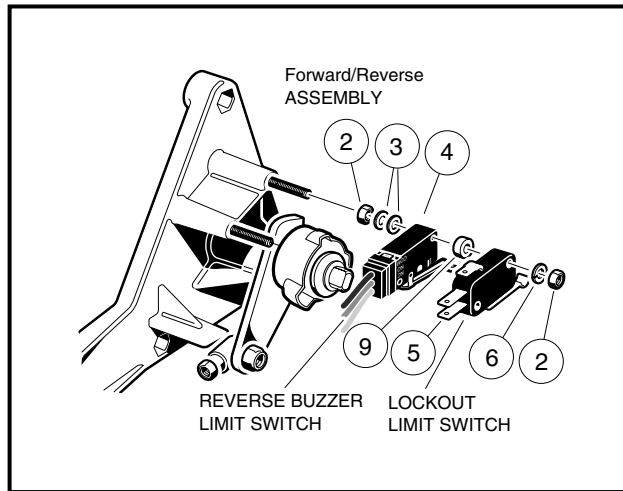

Figure 12-22 Lockout Cam and Reverse Buzzer Limit Switches
4. Disconnect the wires from the lockout cam limit switch (5) located on the back of the Forward/Reverse shifter assembly (**Figure 12-22, Page 12-21**).
5. Remove two nuts (2) and washers (6) from the lockout cam limit switch (5) and slide the lockout cam limit switch off of the screws.
1. Install the lockout cam limit switch (5) with two washers (6) and two nuts (2) (**Figure 12-22, Page 12-21**). Tighten to 5 in-lb (0.6 N·m). Place the Forward/Reverse handle in REVERSE to make sure that both switches actuate. **See following CAUTION.**
4. Disconnect the wires from the reverse buzzer limit switch (4) located on the back of the Forward/Reverse assembly (**Figure 12-22, Page 12-21**).
5. Remove the nuts (2) and washers (6) from the lockout cam limit switch (5) and slide the lockout cam limit switch off of the screws. Do not disconnect the wires.
6. Remove the spacers (9) from the reverse buzzer limit switch (4) and slide the reverse buzzer limit switch off the screws.
1. Install the reverse buzzer limit switch (4), and then install two spacers (9) against the limit switch.
2. Install the lockout cam limit switch (5) with two washers (6) and two nuts (2). Tighten to 5 in-lb (0.6 N·m). **See following CAUTION.**
4. Connect the orange wire to the black wire (COM) terminal and the red/white wire to the blue wire, which is the normally open (NO) terminal of the reverse buzzer limit switch (4) (**Figure 12-22, Page 12-21**).